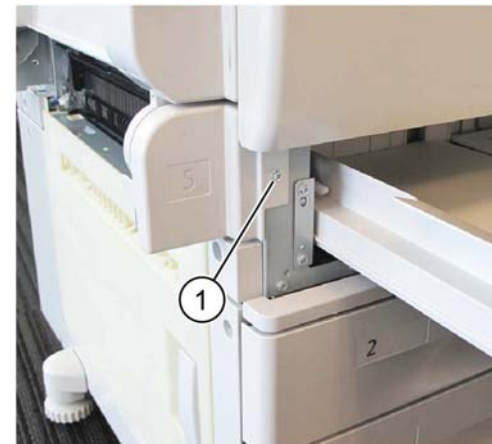

Figure 1 Hinge front cover
2. Pull out tray 1. Remove the screw (1) that secures the hinge front cover, Figure 1.